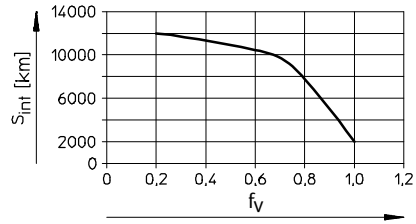

Fig. 8
- If **one** of these factors applies, halve the lubrication interval S_{int} (→ Fig. 8).
1. Calculate the load comparison factor f_v with the help of the formula for combined loads (→11 Technical data) and read the lubrication interval S_{int} (→Fig. 8).